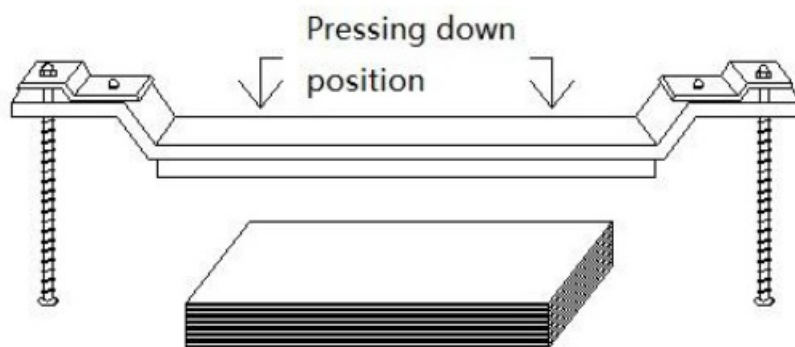

Fig 2
4. Load the sheets onto the table. Press the clamping bar downward at the center of the bar to clamp the sheets tightly (shown in Fig 2).